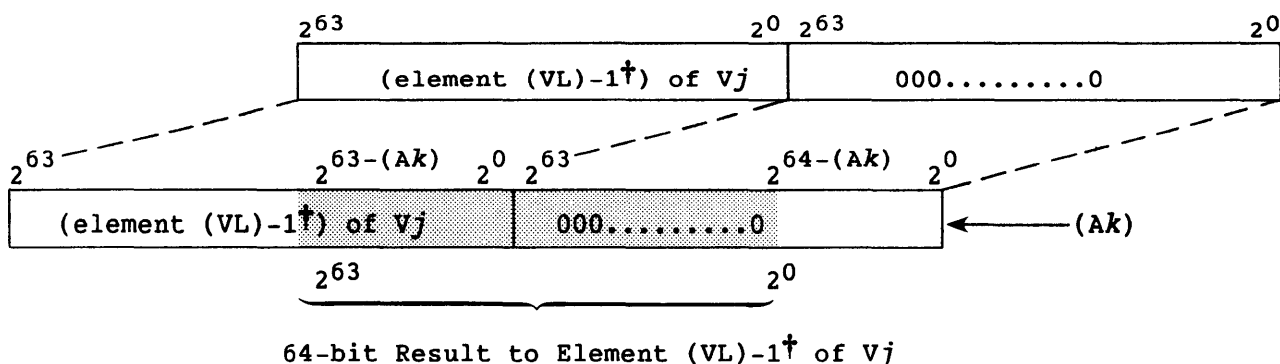

Figure 5-9. Vector Left Double Shift, Last Element
If (VL) is 2, element 1 is joined with 64 bits of 0 and only two operations are performed. In general, the last element of V_j as determined by (VL) is joined with 64 bits of zeros. Figure 5-9 shows this operation.